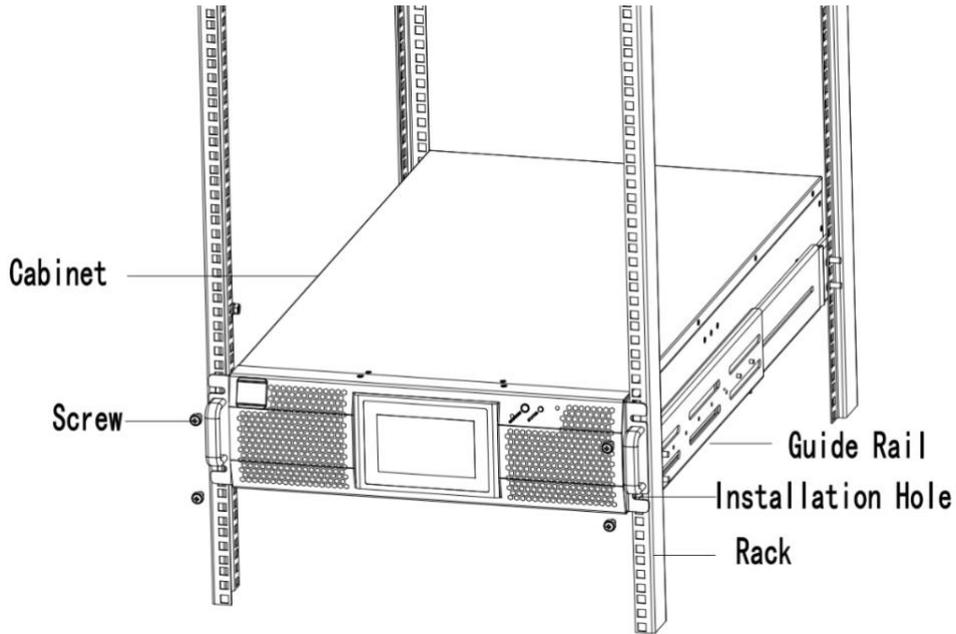

Fig.2-3 Rack Mounted Installation
(1) Install the guide rail
(2) Put the UPS and battery cabinet on the guide rail, fix the units to the service rack, shown as Fig.2-3.